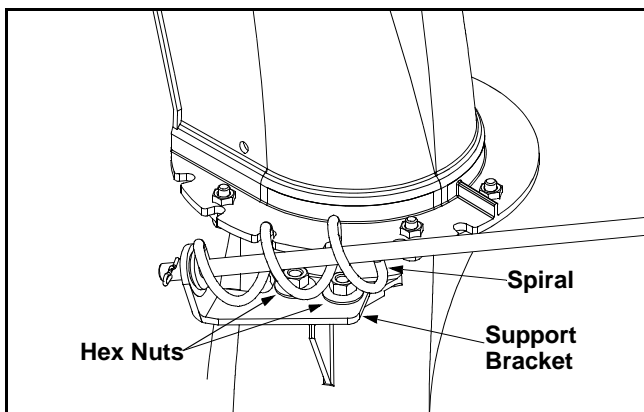

Figure 8
- Loosen, but do NOT remove the two hex nuts which secure the chute directional control support bracket to the snow thrower housing. See Figure 8.